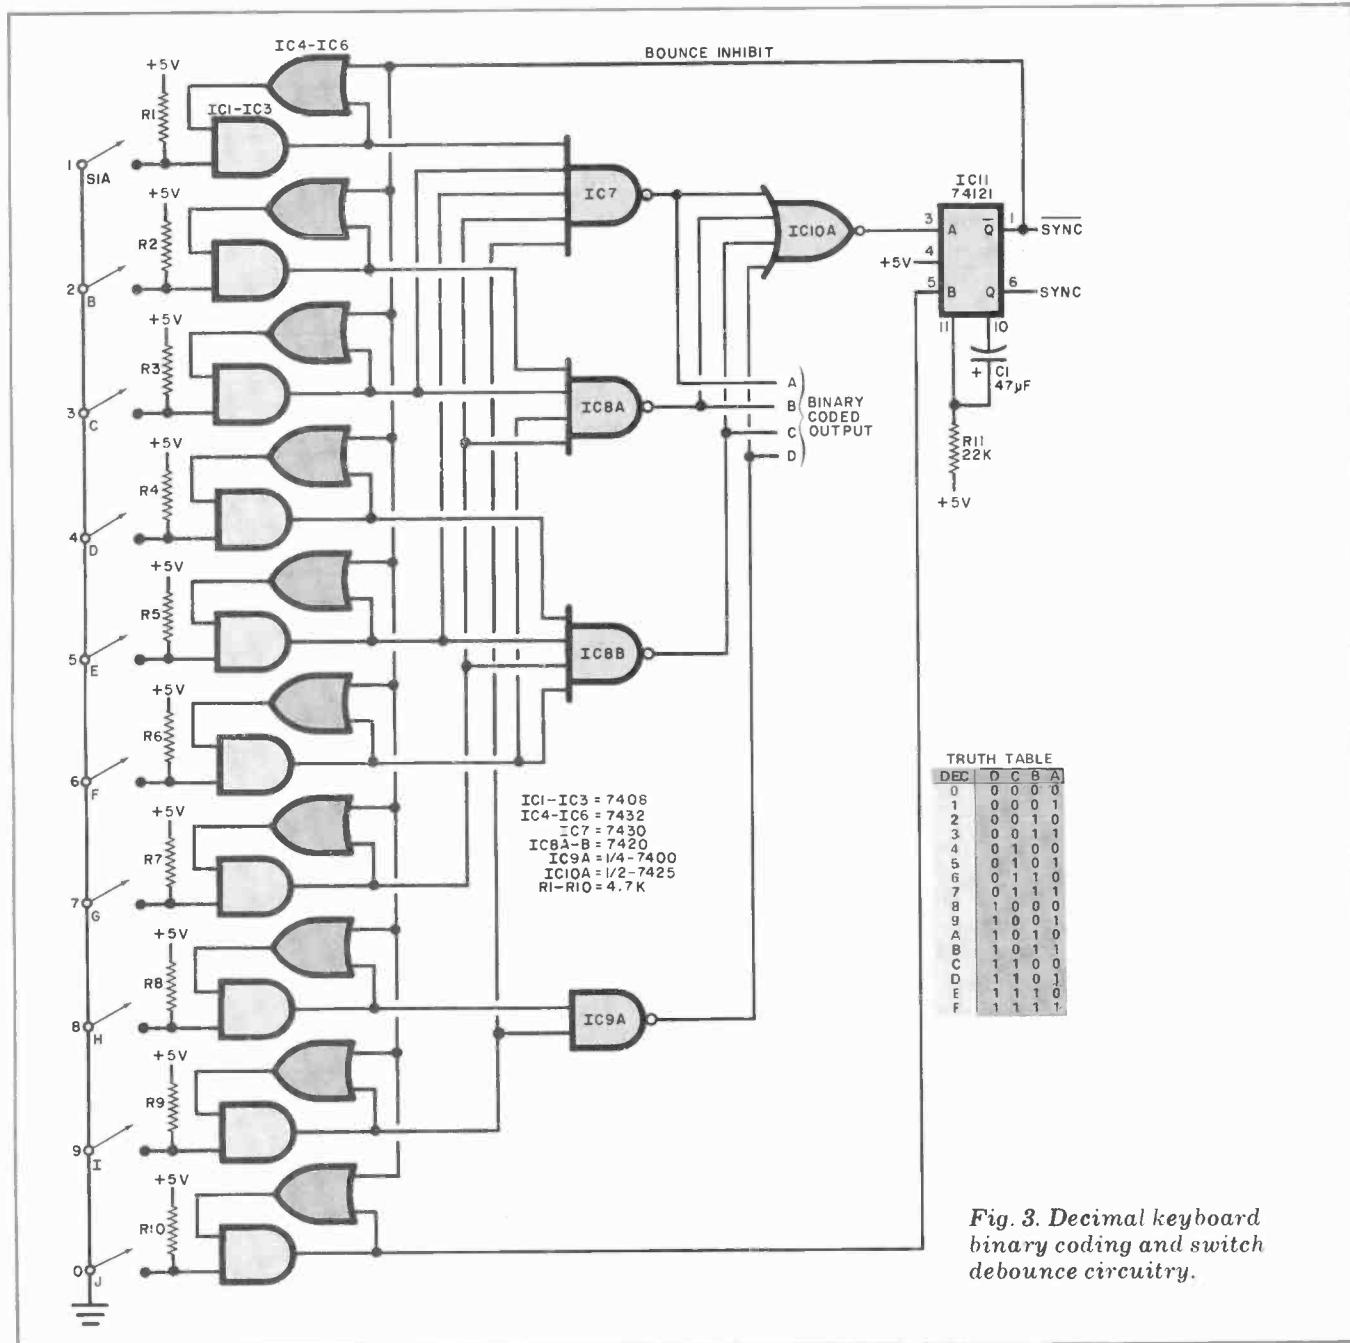

Fig. 3. Decimal keyboard binary coding and switch debounce circuitry.
The circuit shown in Fig. 3 illustrates the use of the debounce circuit with a BCD coding scheme. A function truth table is also shown. You may be surprised to see a hexidecimal table for a 10-key array. If you wish to obtain a hex A (10),
Referring back to Fig. 3, when all keyswitches are open, their associated AND gate (*IC1* through *IC3*) inputs are high. Hence, the outputs of the four encoding NAND gates (*IC7* through *IC9*) are low. Closing any keyswitch except 0 forces at least one of the NAND gate inputs high.
The bounce-inhibit circuit uses a 4-input NOR gate (*IC10A*) to trigger bounce-inhibit monostable multivibrator *IC11*. When any of the four NOR gate inputs go high (any key closed), the output of the NOR gate goes low and triggers the multivibrator. The multivibrator, in turn, sends a low signal to the OR gate associated with each key. This implements the debounce function. For the RC values given in Fig. 3, the debounce period is about 700 ms. For the 74121 monostable multivibrator, the timing equation is $T = 0.69RC$, with R kept at a value of less than 40,000 ohms.
The circuit remains in the debounce condition and ignores any switch bounce until the monostable multivibrator times out. When this occurs, the circuit resets back to where another key can be operated. Note in Fig. 3 that the multivibrator also produces a "sync" signal in exact time step with the input pulse. This is for use with an external counting or other enabling circuit.